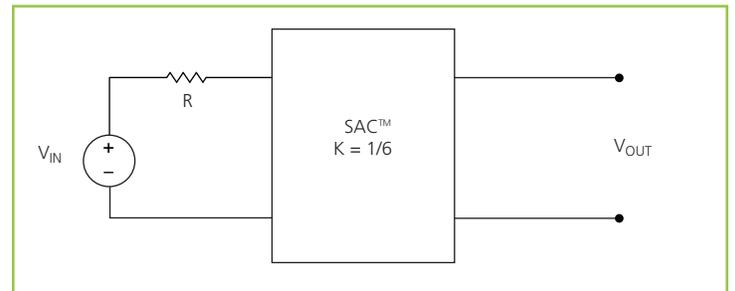

Figure 15 – K = 1/6 Sine Amplitude Converter™ with series input resistor
The use of DC voltage transformation provides additional interesting attributes. Assuming that R_{OUT} = 0 Ω and I_Q = 0 A, Eq. (3) now becomes Eq. (1) and is essentially load independent, resistor R is now placed in series with V_{IN} as shown in Figure 15.
Assuming that $R = 1 \Omega$, the effective R as seen from the secondary side is $27.8 \text{ m}\Omega$, with $K = 1/6$ as shown in Figure 15.